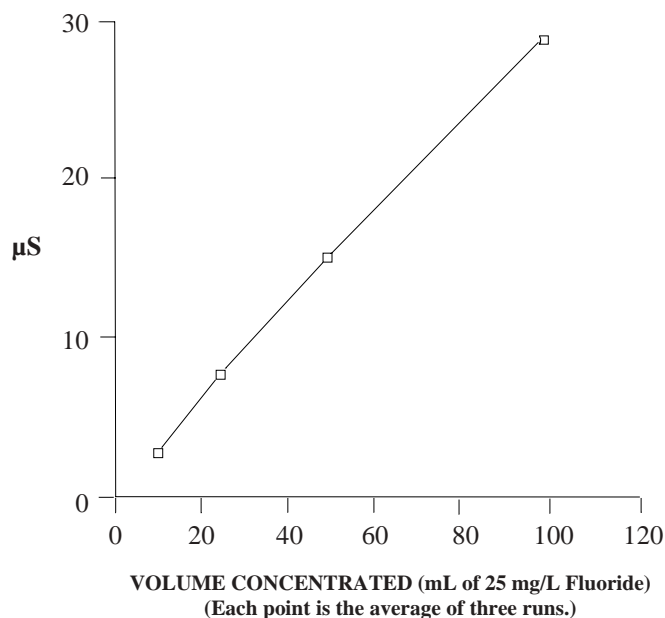

Figure 4
- D. A plot of response versus volume concentrated, similar to Figure 4, "Response versus Volume Concentrated," should be generated for determination of the maximum amount of sample or standards that can be quantitatively loaded. The curve loses linearity above 100 mL volume concentrated. Therefore volume greater than 100 mL should not be used for quantification. For practical purposes the volume concentrated for this series of samples should be 75% of this value. This will ensure that there is a safety margin for samples in the series having slightly higher ionic concentrations. See Figure 4, "Response versus Volume Concentrated."